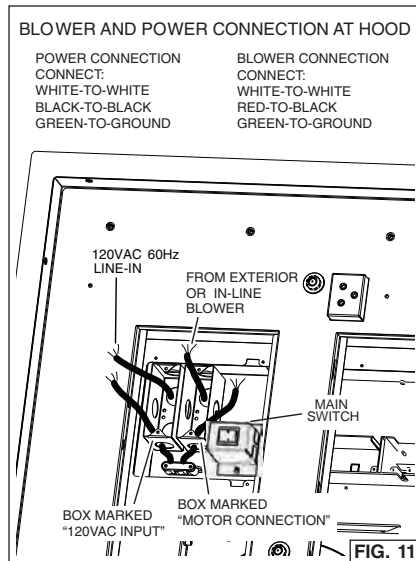

FIG. 11
5. From the electrical box marked "MOTOR CONNECTION", remove (2) screws that secure the cover to the metal wiring box. Fig. 11.
3. From the electrical box marked "120VAC INPUT", remove (2) screws that secure the cover to the metal wiring box. Fig. 11.
7. Replace the electrical compartments access panel and (4) screws.